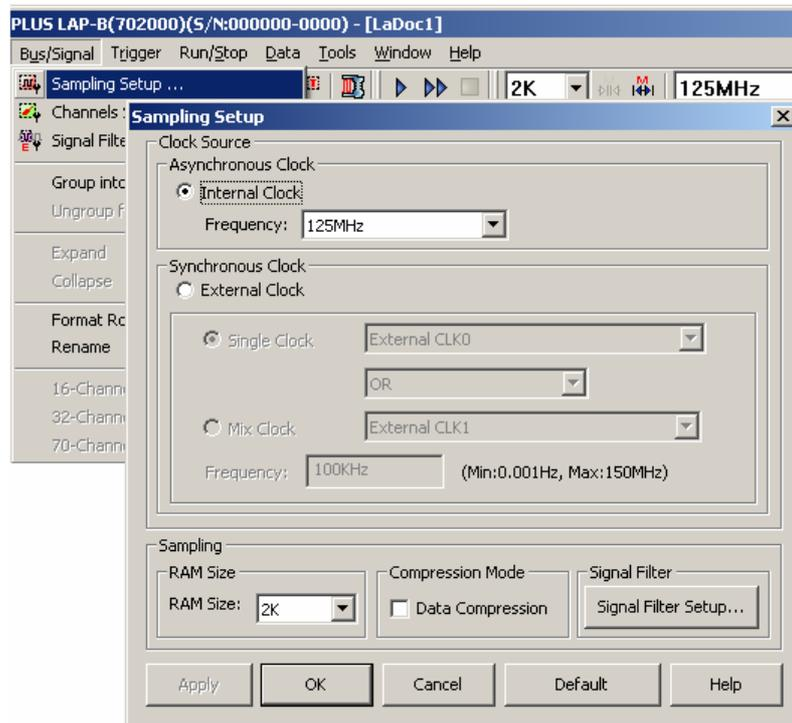

Fig 4-1 – Sampling Setup
**Step 6.** Click  icon or click **Sampling Setup** from **Bus/Signal** on the menu bar, the dialog box as shown in Fig 4-1 will appear.